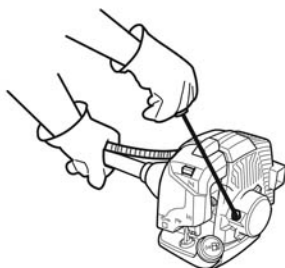

Fig. 13
- > Pull the handle [4] to start the engine (Fig. 13).